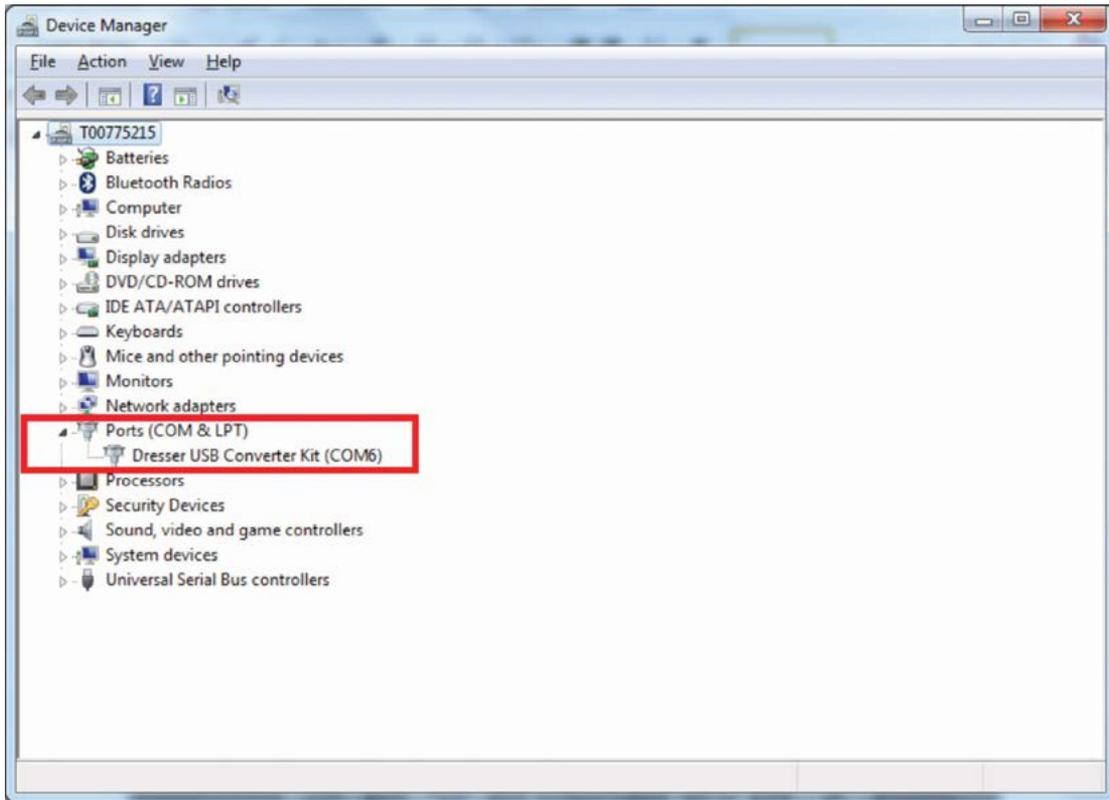

Figure 53: Device Manager. COM Port Location
3. Within the Device Manager, locate "Ports (Com & LPT)". Take note of the communications port assigned to the Prover. Refer to **Figure 53**.